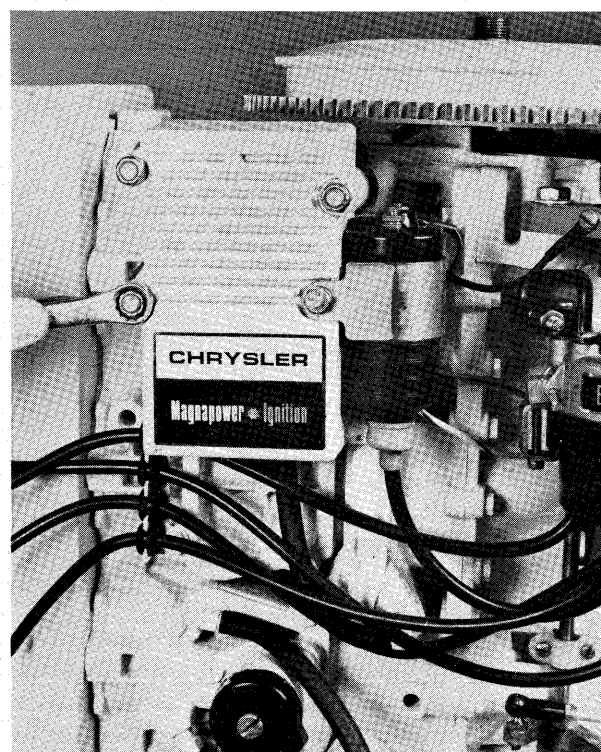

Figure 5B—Removing C-D Unit
- E. Remove three stop nuts securing C-D unit to shock mounts and remove C-D unit with ignition coil. See figure 5B.
- H. Remove shock mounts from power head by installing two (2) nuts on stud of shock mount tighten nuts against one another and turn shock mounts out of powerhead with wrench on lower nut.